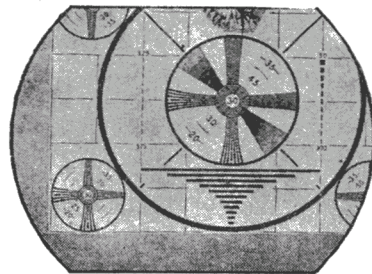
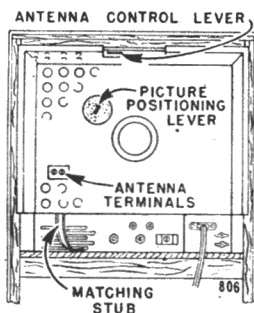

Figure 10. Picture not centered; adjust focus coil.
Figure 11. Rear of Cabinet.
If the picture is not centered in the picture window, or rounded shadows appear on one corner, it will be necessary to adjust the focus coil by means of the "picture positioning lever" which extends from the rear of the set. See Figure 11. The "picture positioning lever" can be moved up or down and to each side so that the picture may be properly centered. For example, the off-centered picture (illustrated in Figure 10), can be corrected by moving the picture positioning lever straight up. (For convenience in making this adjustment, a mirror may be placed in front of the set to reflect the picture.) Moving the lever arm down will move the picture toward the upper right hand corner; moving it up will move the picture toward the lower left hand corner. Moving the lever to the left will move the picture toward the upper left hand corner; and moving it to the right will move the picture toward the lower right hand corner.
**Operating The "Roto-Scope" Antenna:** The Roto-Scope antenna is operated by the antenna control lever which extends from the back of the cabinet near the top. See figure 11. The antenna control lever can be set to any of three different positions which, in effect, allow the Roto-Scope to be oriented (rotated) for best possible reception on all channels operating in your area.